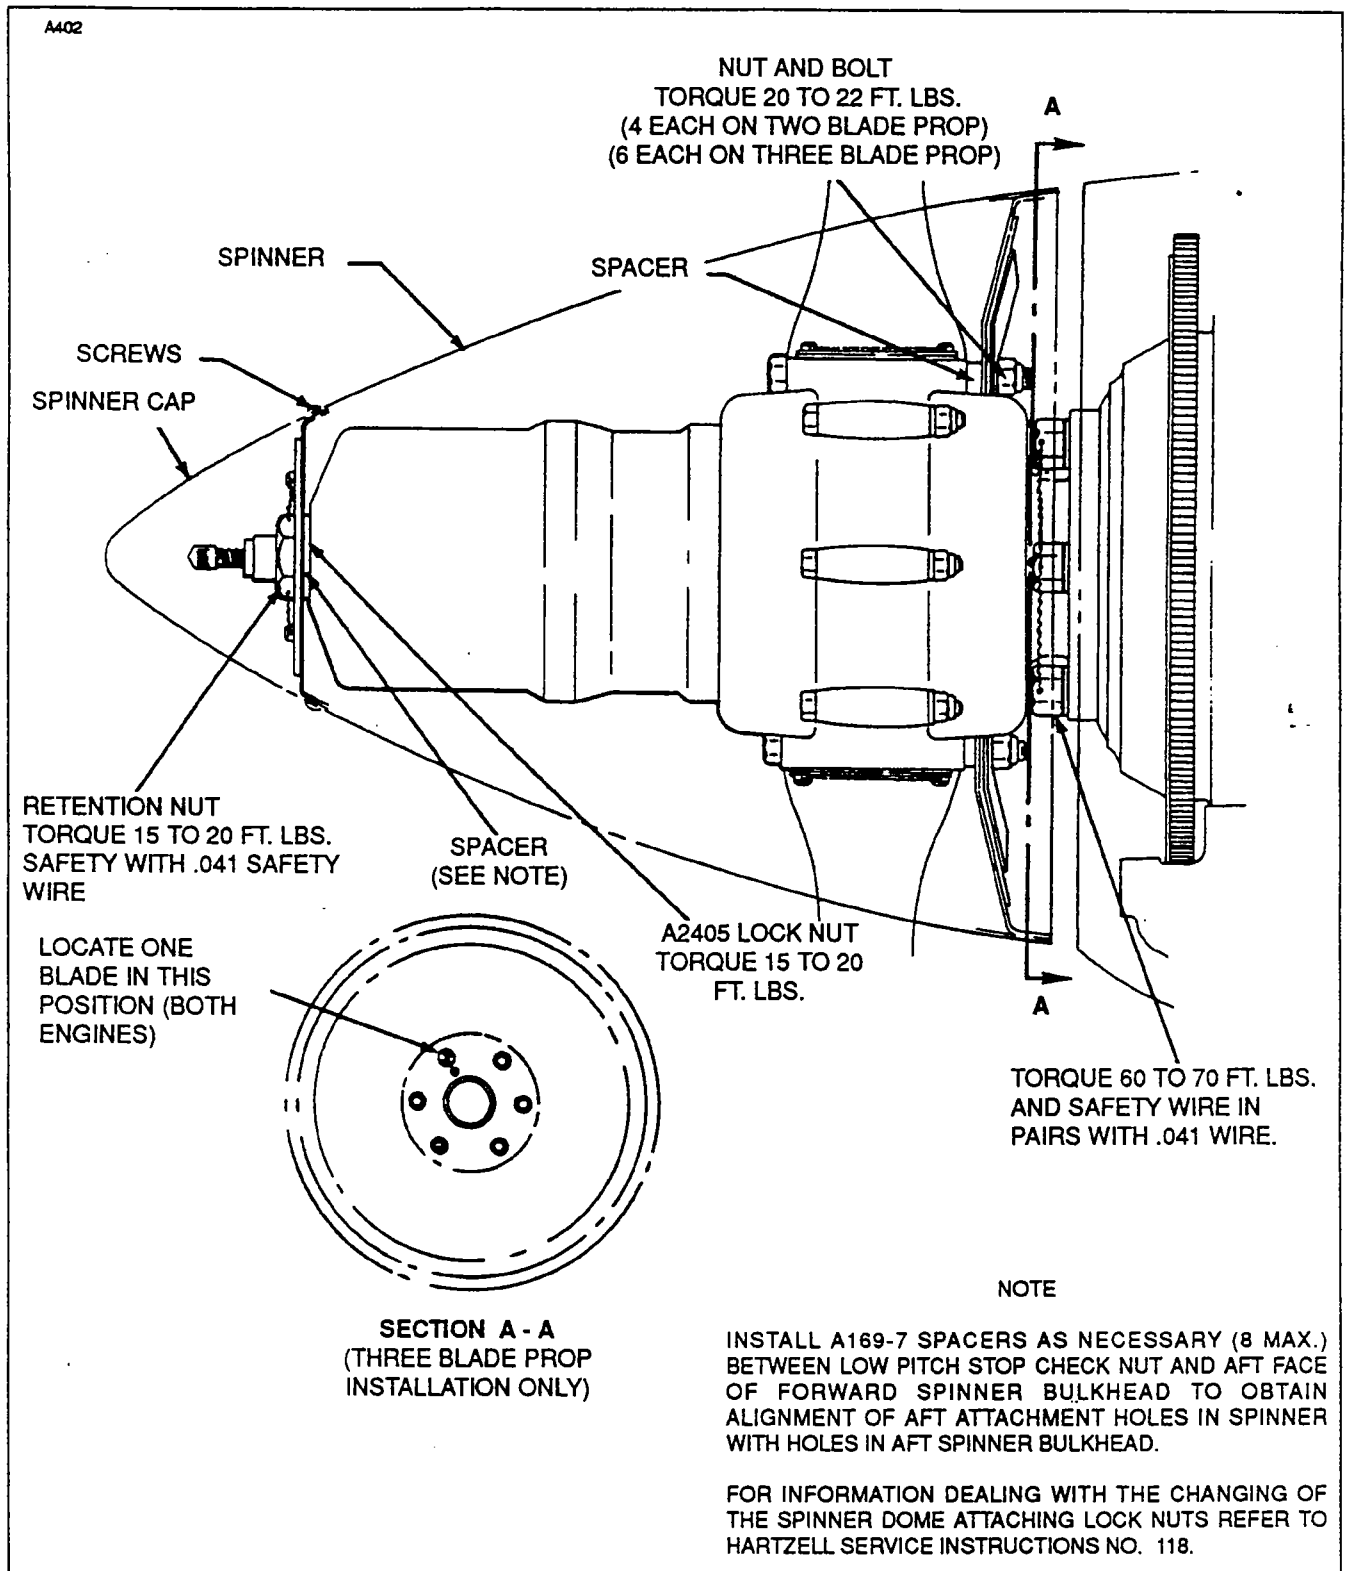

Figure 61-2. Propeller Installation (Two and Three Blade Propellers)
7. Raise propeller into position so that each stud mates with an engine flange bushing and screw each stud in a few threads at a time until all are tight. Torque to 60 to 70 foot pounds. (Refer to Figure 61-2 for additional information on three blade propeller installation.)